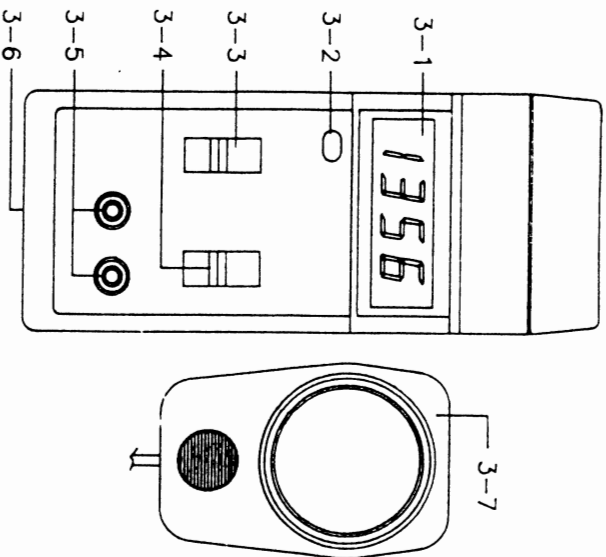

Fig. 1
- (1) Determine Lux or Ft-candle on slide switch(3-4, Fig.1) Determine the response time on slide switch(3-4, Fig.1), typical select to the "SLOW" position.
- (2) Select the max. range on the "Range Switch"(3-3, Fig. 1).
- (3) Hold the "Light Sensor"(3-6, Fig. 1) by hand & face the measuring light oppositely, then the Display(3-1, Fig. 1) will show light values directly.
- (4) During the measurement, if slide the "Data Hold Switch"(3-2, Fig. 1) to the "hold" position, then will freeze the display reading permanently.
- (1) When the left corner of the LCD display shows "LO BAT", it indicates the battery output less than 6.5 V – 7.5 V. Replacement of the battery is then needed. However measurement could still be taken for another few hours before the tester becomes inaccurate.
- (2) Open the Battery Cover (3–6, Fig 1) at the back of tester and remove the battery.
- (3) Replace with a 9V battery and reinstate the cover.